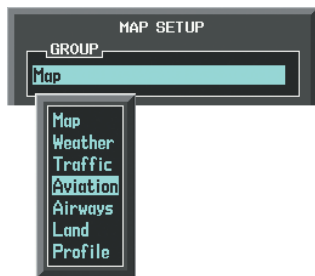

Figure 6-52 Navigation Map Page Setup Menu
- 4) Turn the small **FMS** Knob to select the Aviation Group and press the **ENT** Key (Figure 6-52).